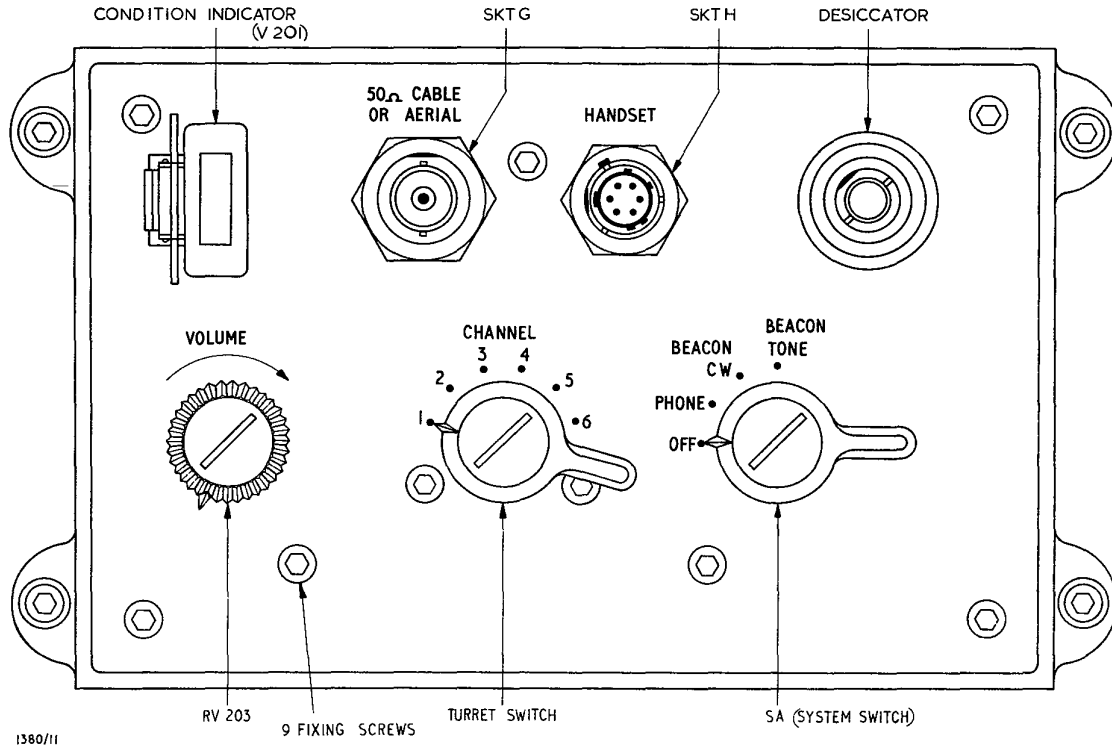
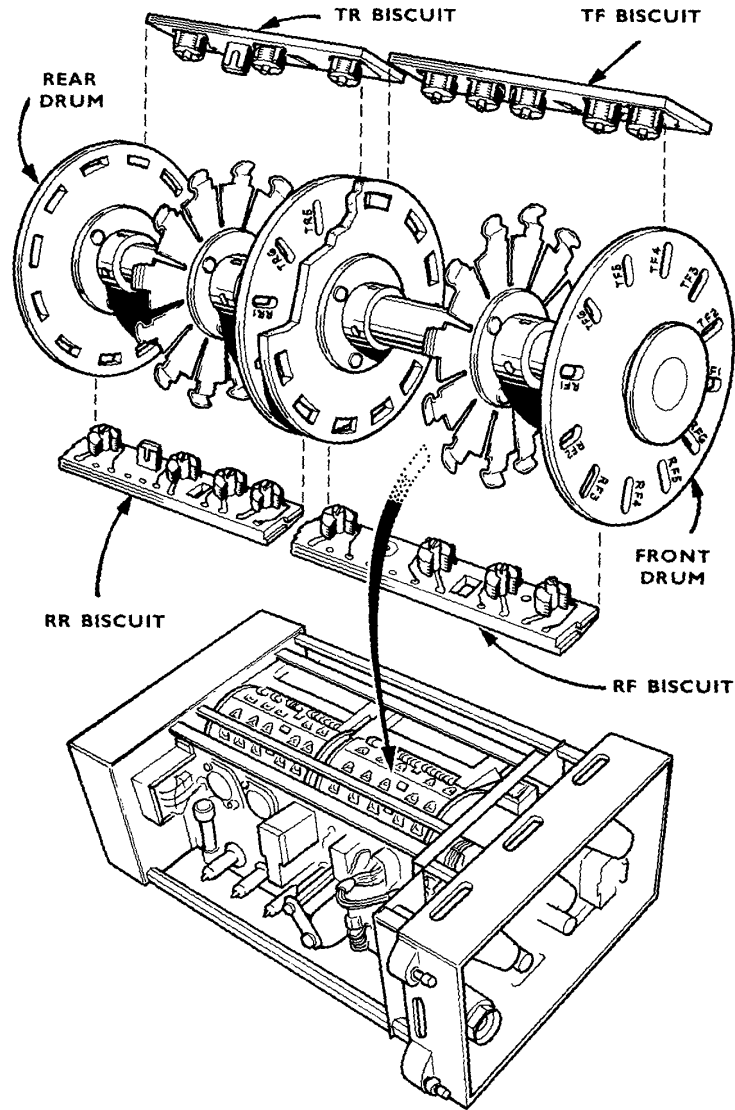

Fig 5 - Front panel layout
Fig 6 - Turret and tuners, radio frequency
51. Using the No 2 BA socket wrench (Allen key) release the four captive screws (Fig 5).
52. Gently part the front panel from the case. If the two sections cannot be parted by hand carefully insert a knife blade between the two sections of one of the lugs (see Fig 5) and apply a gently twisting movement. Note that from now onwards hand-holds must be on the chassis or metalwork not on valves or components.
55. All biscuits can be changed with the set positioned as shown in Fig 6, that is with the turret uppermost.
57. Set the CHANNEL control (Fig 5) to the first channel the frequency of which is to be changed. This will bring the receiver biscuits into their operating positions under the row of spring contacts. The channel number and biscuit coding will be found marked on the front face of each drum (Fig 6).